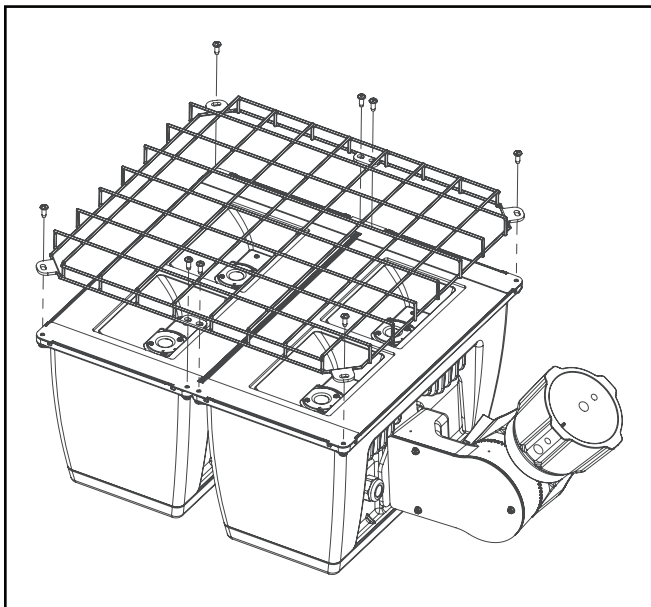

Figure 5.
Wire Guard (Figure 5.)
1. Loosen and remove the existing (8) 10-24 Philips head screws on the face of the fixture and retain for future reference.
2. Align wire guard on top of lens clips matching the four existing holes. (Figure 5.)
3. Retighten (8) 10-24 Philips head screws from step 1, to the face of the fixture.